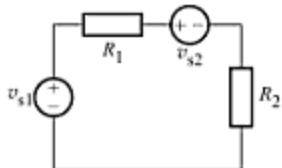

Fig. A-57
- A-8. In the circuit of Fig. A-57, if  $v_{S1} = 120 \text{ V}$ ,  $v_{S2} = 30 \text{ V}$ ,  $R_1 = 30 \Omega$ , and  $R_2 = 30 \Omega$ , compute the power absorbed by each component.